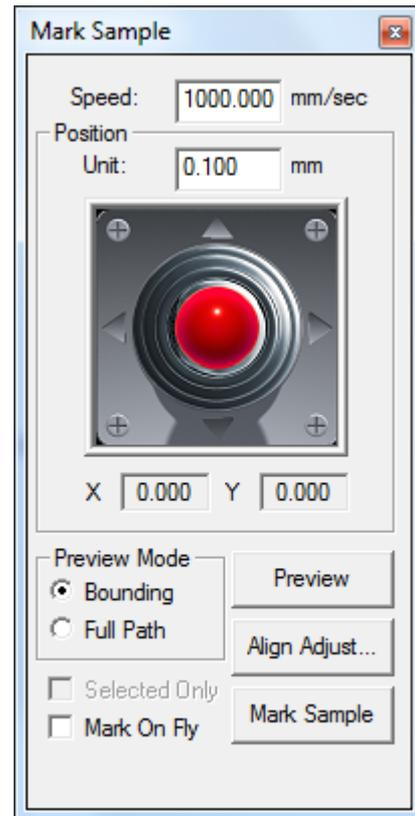

Fig. 1.6.05
This function is used to position the marking object. The interface shows as Fig.1.6.05. It uses align light instead of laser to display marking route on work piece. Users can adjust the position of work piece to fit the marking area through this function.
**Position:** Click the four arrows around the control lever in Fig.1.6.05 to move the align light, and the moving distance depends on X or Y value which is set at “Unit.”